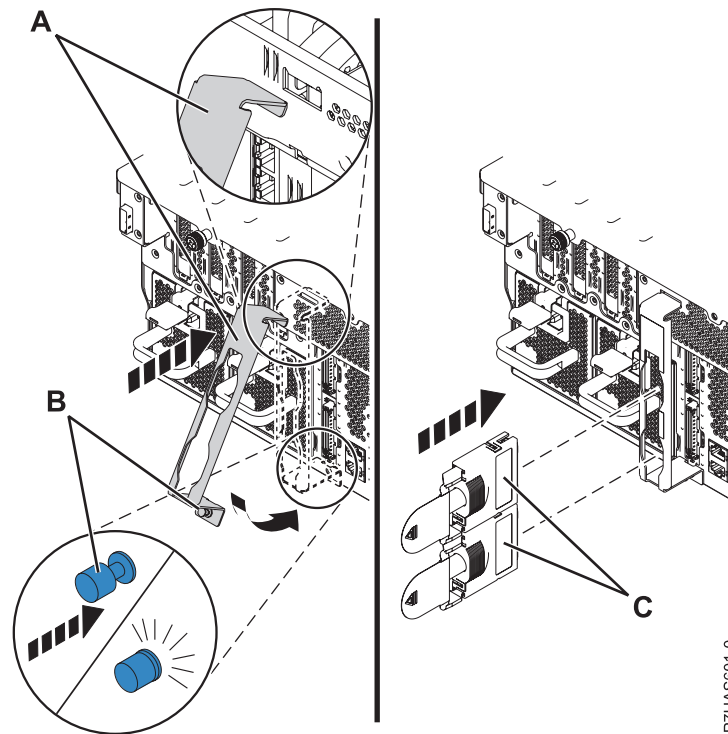

Figure 5. Cable retention bracket installation
15. If the cable retention bracket (A) is provided, perform the following steps:
- a. Install the cable retention bracket (A). Tilt the cable retention bracket, shown in Figure 5, to hook the tab at the top of the bracket into the slot in the assembly.
- b. Swing the cable retention bracket toward the chassis and push the bracket fastener (B) into the chassis opening to secure the bracket.